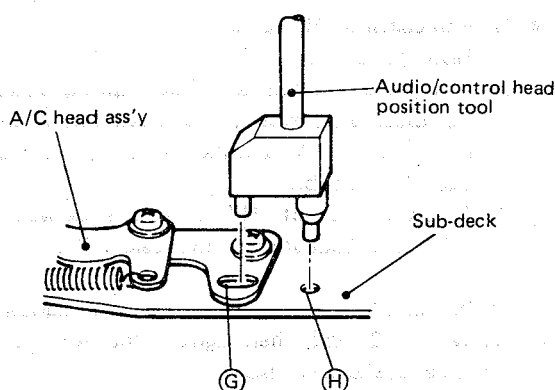

Fig. 2-55
6. Slightly tighten the three screws (D), (E) and (F) and play staircase segment of the alignment tape MH-2.
7. Set the audio-control head position tool (PUJ44653) as shown in Fig. 2-55.